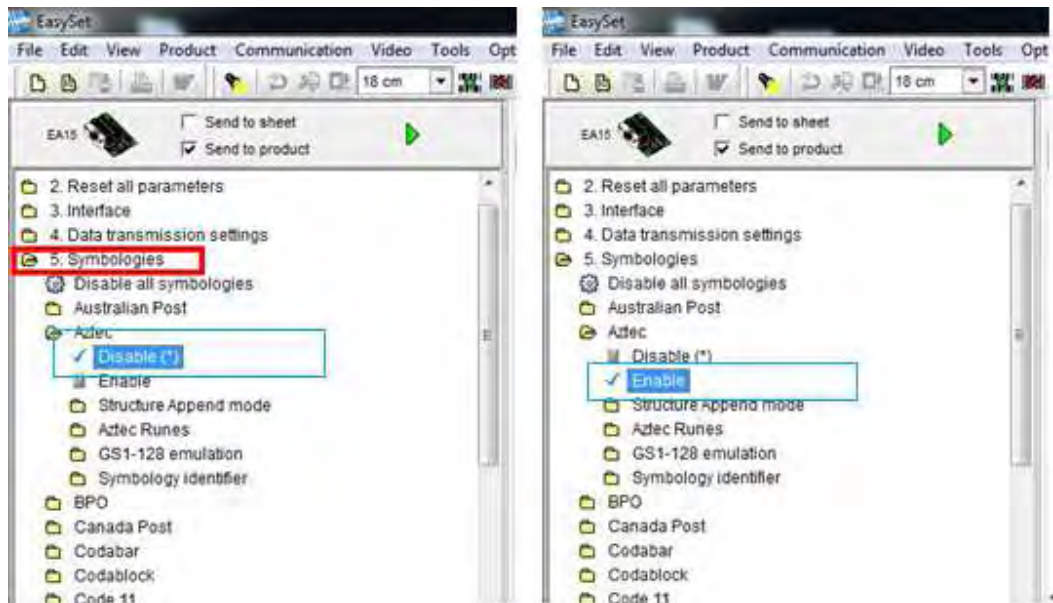

Figure 3-36: Symbologies
Step 2: Use the **Symbologies** section to setup the format that can be read by the barcode scanner (EA15). In the default setting, only the PDF417 format of 2-D barcodes is enabled. If other formats are needed, the user must enable them here. Take Aztec as an example. The Aztec is disabled (the Disable option is checked). Double click the **Enable** option to enable Aztec format. See **Figure 3-36**.